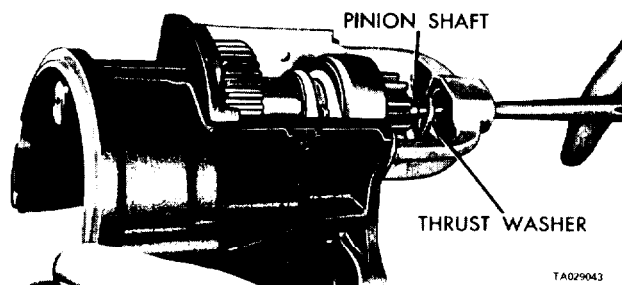
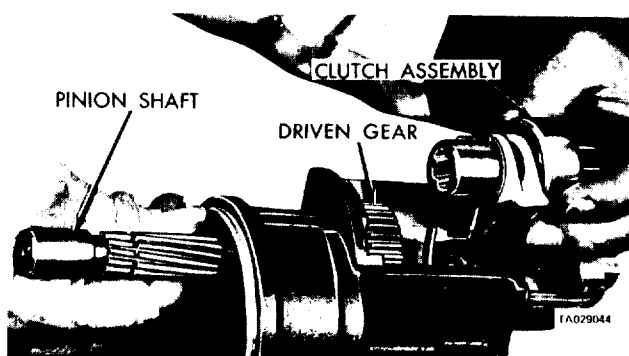
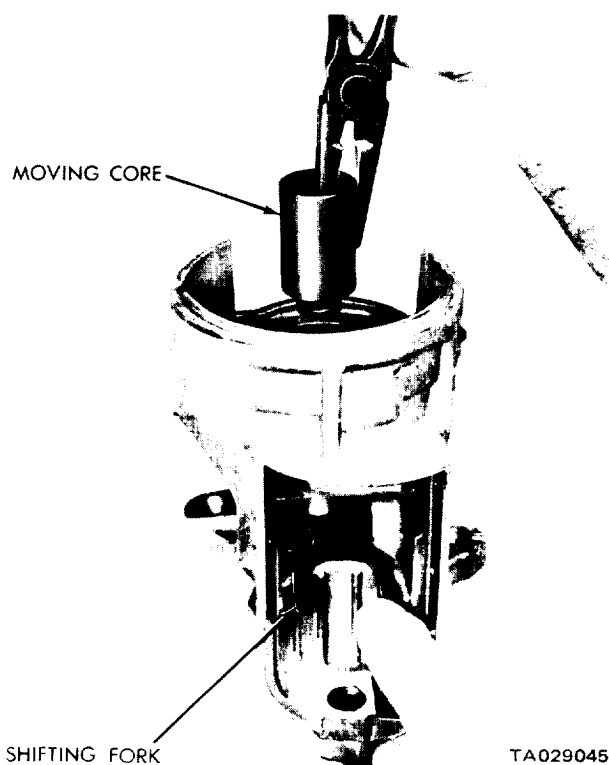

Figure 15-16. Removing Pinion Assembly.
Figure 15-17. Removing Clutch Assembly.
Figure 15-18. Removing Solenoid Cord.
p. Push the pinion shaft toward the rear of the housing (figure 15-16). Remove the retainer ring and thrust washers. Remove the clutch assembly (figure 15-17).
r. Remove the solenoid core (figure 15-18).
(2) Install the solenoid moving core and engage the shifting fork (figure 15-18).
(3) Put the pinion shaft into the drive housing and install a friction washer and the drive gear.
(4) Install the clutch and pinion assembly, and the retaining and thrust washers (figure 15-17).
(5) Complete the installation of the pinion shaft engaging the shifting fork with the clutch actuators. The friction washer must be positioned on the shoulder of the splines of the pinion shaft before the driven gear is positioned.